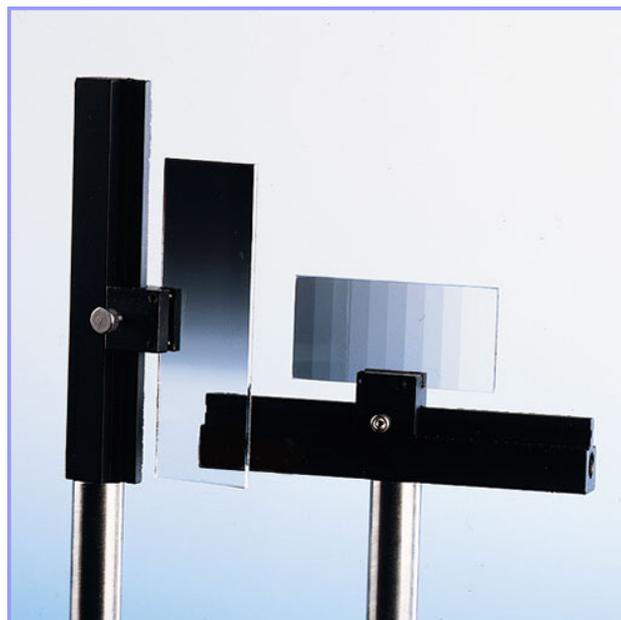

Figure 4d: Adjustable linear beamsplitter mount.
2. Alternatively, you can mount this beamsplitter in a special mount available from Edmund Optics shown in Figure 4d.